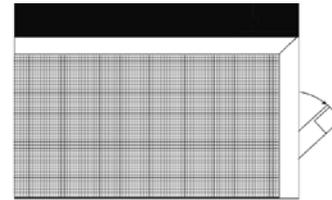

Figure 4
- 6) Open the air cleaner (fig 4), carefully remove the old media pad, and discard.